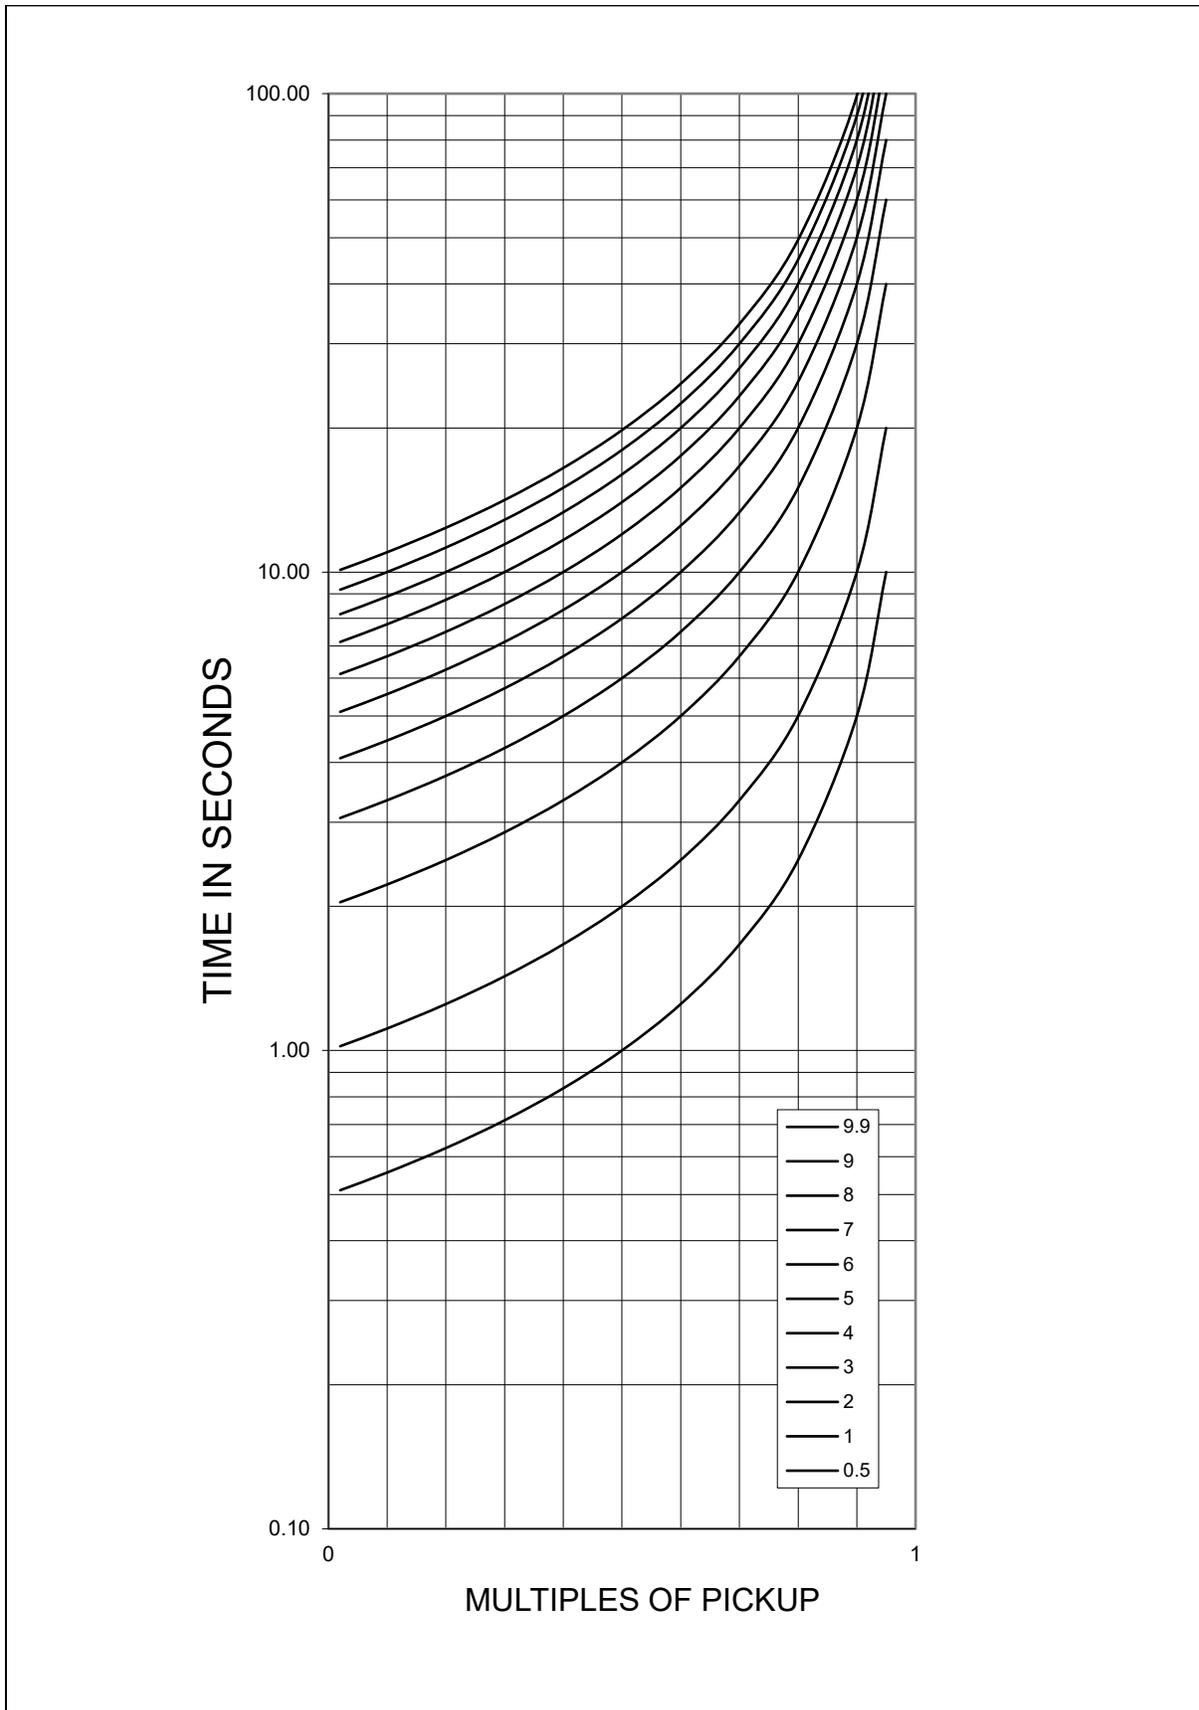
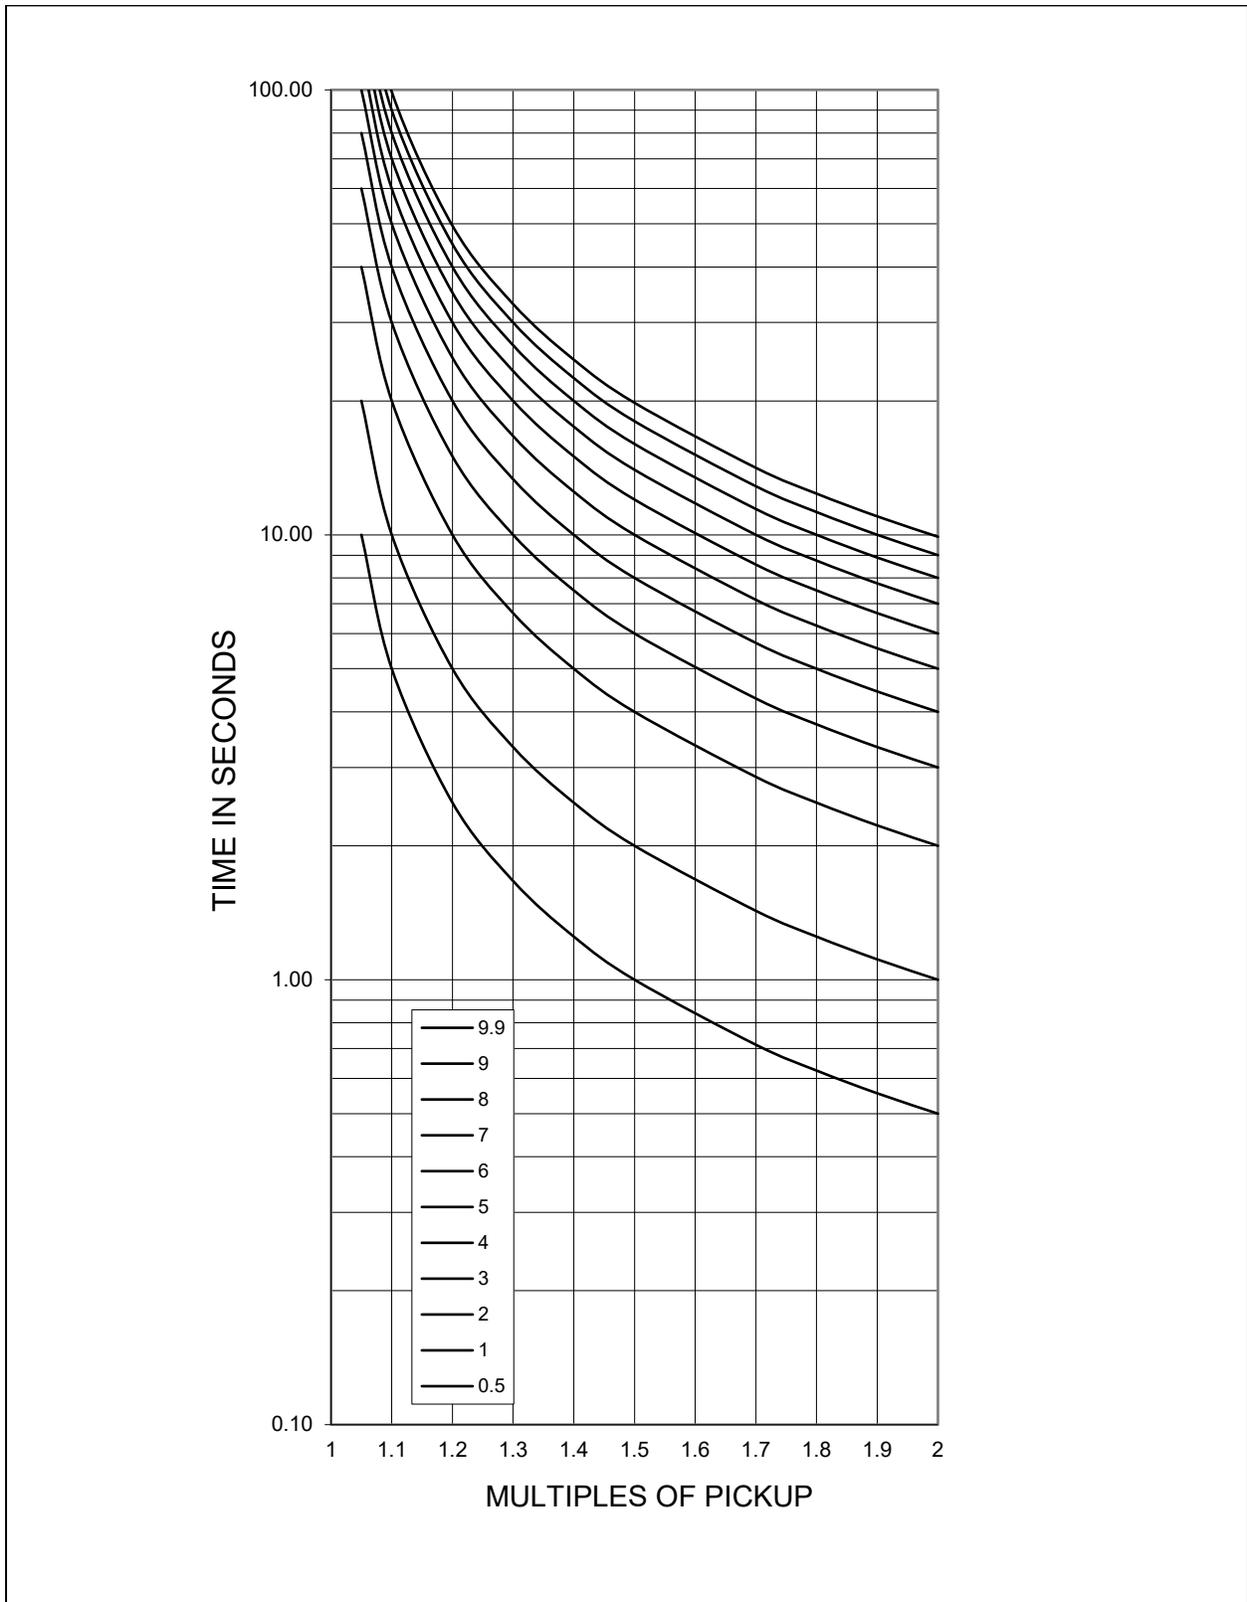
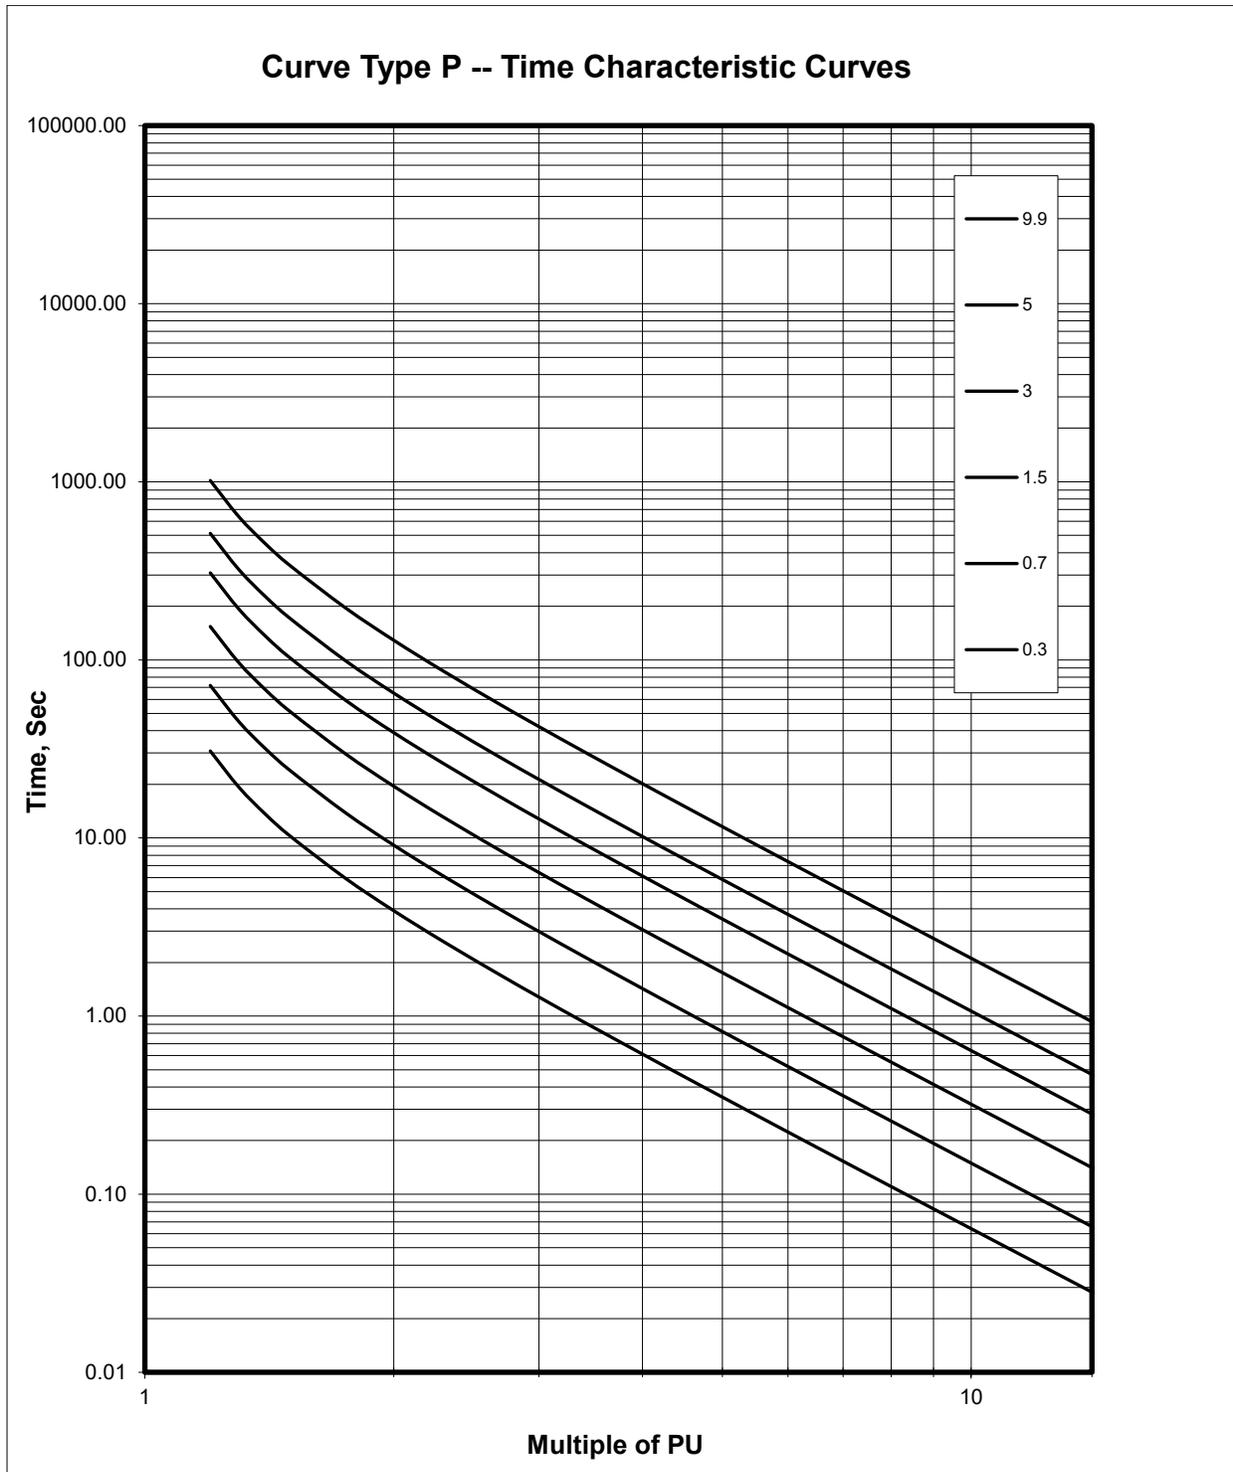

Figure 56-2. Undervoltage (27) Inverse Time Curve (Default Constants)
Figure 56-3. Overvoltage (59) Inverse Time Curve (Default Constants)
Figure 56-4. DC Overcurrent (76) Inverse Time Curve (Default Constants)
The BE1-FLEX offers multiple inverse timing methods. Standard inverse overcurrent curves are selectable. In addition, user defined Programmable (P) Curves and Table (T) Curves can be created for Over and Under, AC and DC Voltage and Current Elements (27, 51, 59 and 76). Default setting curves are shown below in Figure 56-2, Figure 56-3, and Figure 56-4.